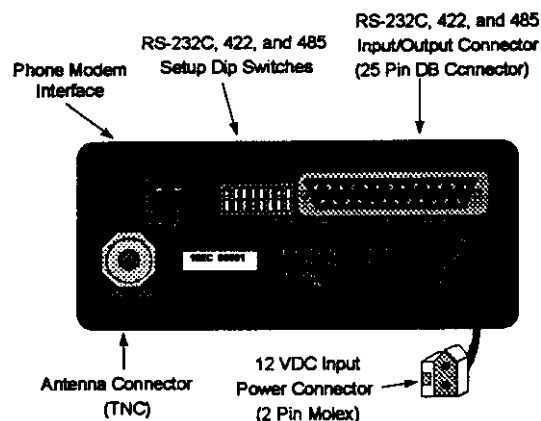

Figure 5: ESTeem Rear Panel Diagram
6. This next section is titled Set RS-232 Switches of the ESTeem. Press ENTER and the window will display how the RS-232 switches on the rear of the ESTeem (Figure 5) need to be set to match the configuration of the computer's communication port that we set in step 5. Configure the switches on the ESTeem to match those listed in the window and press any key to continue.